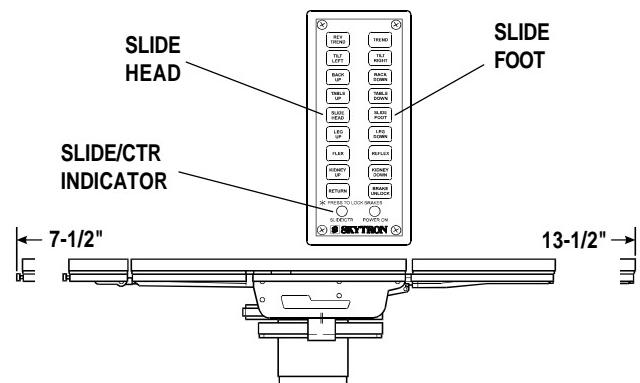

Figure 2-8. Top Slide
**f. Top Slide.** To move the table top toward the head end, press the SLIDE HEAD button. From center position, the top will slide up to 7-1/2". See figure 2-8.